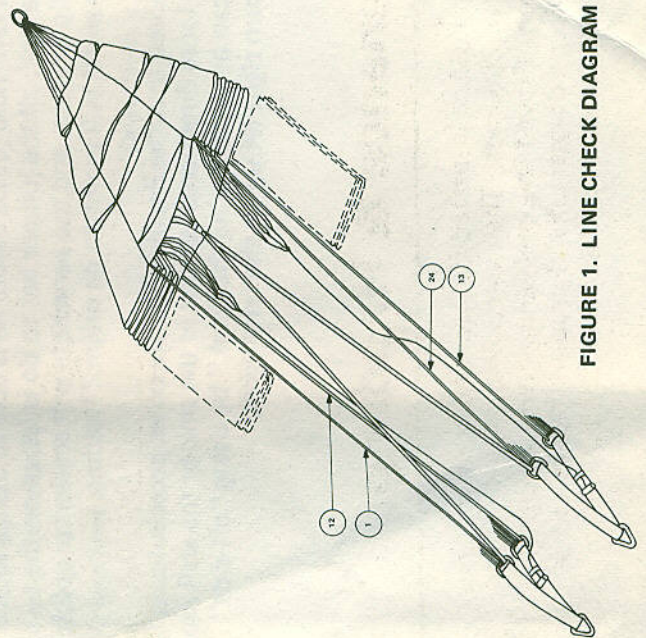

FIGURE 1. LINE CHECK DIAGRAM SKETCH
Step 2: Run a "four-line" check. The center lines and all the control lines should be in the center. (Fig. 1)